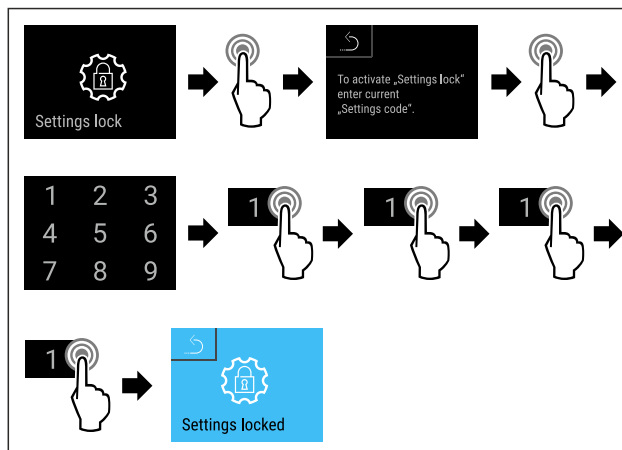

Fig. 88
- ▶ Complete steps (see Fig. 88).